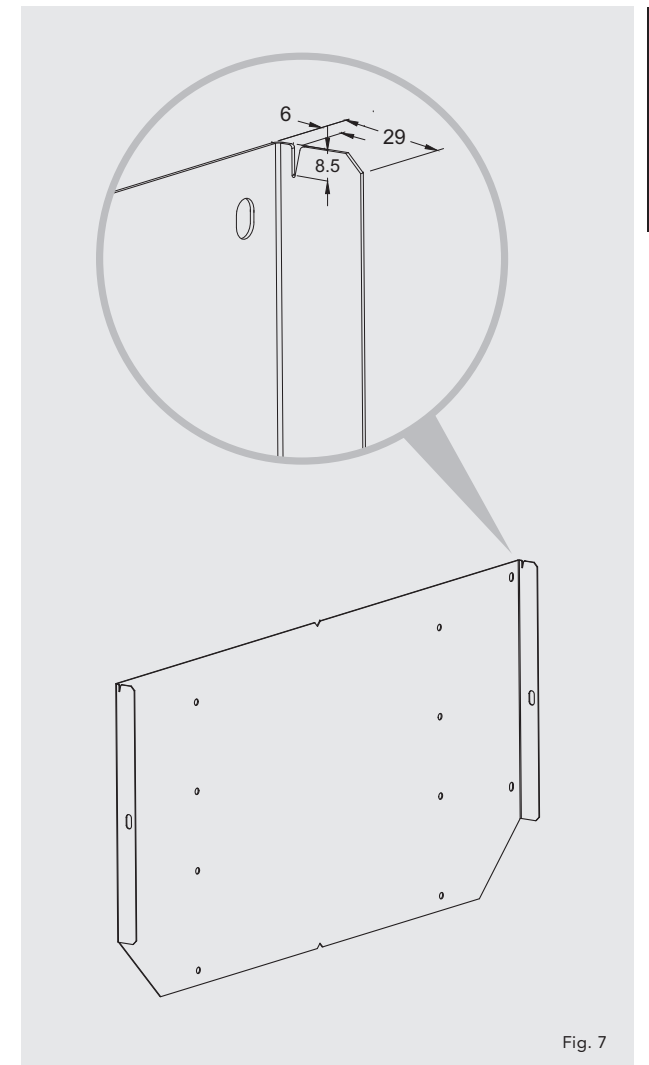

Fig. 7
- Fit the LST casing on the top bracket plate. Ensure the LST casing is located into the mounting slots situated on top of the plate (see Fig. 7).